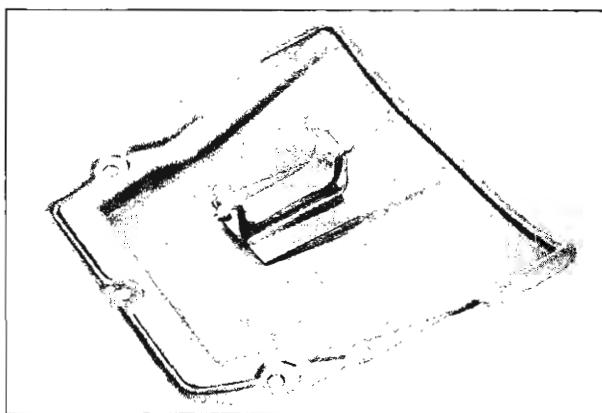

Fig. 1-3 Engine Fan Top Shield Assembly (Underside)
2. Remove engine fan top shield assembly. Note that the upper portion of the radiator is held by a "cradle" type bracket on the bottom side of the engine fan top shield assembly (Fig. 1-3).